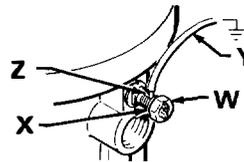

Fig 1
1. *Pump*: use ground wire and clamp as shown in Fig 1.
To ground the pump, loosen the grounding lug locknut (W) and washer (X). Insert one end of a 12 ga (1.5 mm²) minimum ground wire (Y) into the slot in the lug (Z) and tighten the locknut securely. See Fig 1. Connect the other end of the wire to a true earth ground. Refer to page 10 to order a ground wire and clamp.